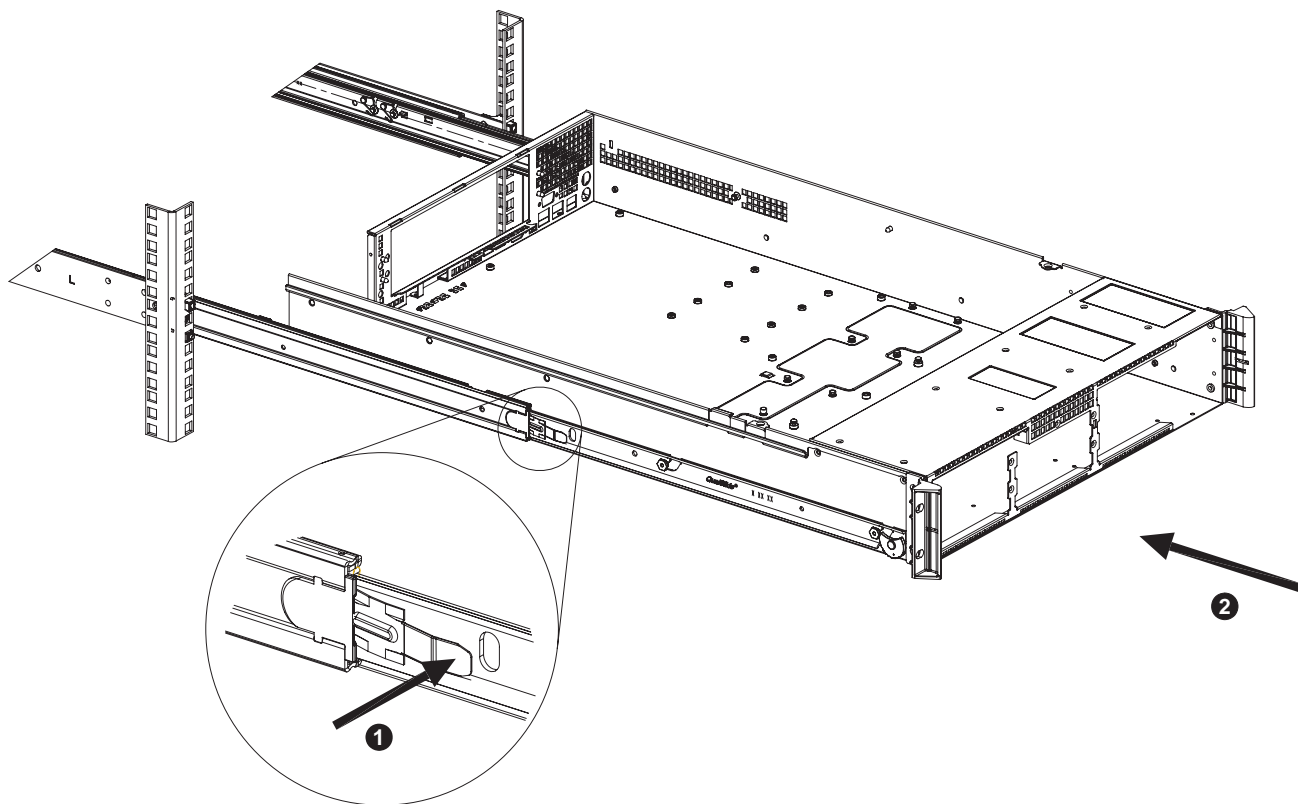

Figure 2-5 ISS3124-RP2 Server Chassis Rail Slide Release Tab Example
4. Push the release tab and push the chassis into the rack as shown in the example in Figure 2-5.